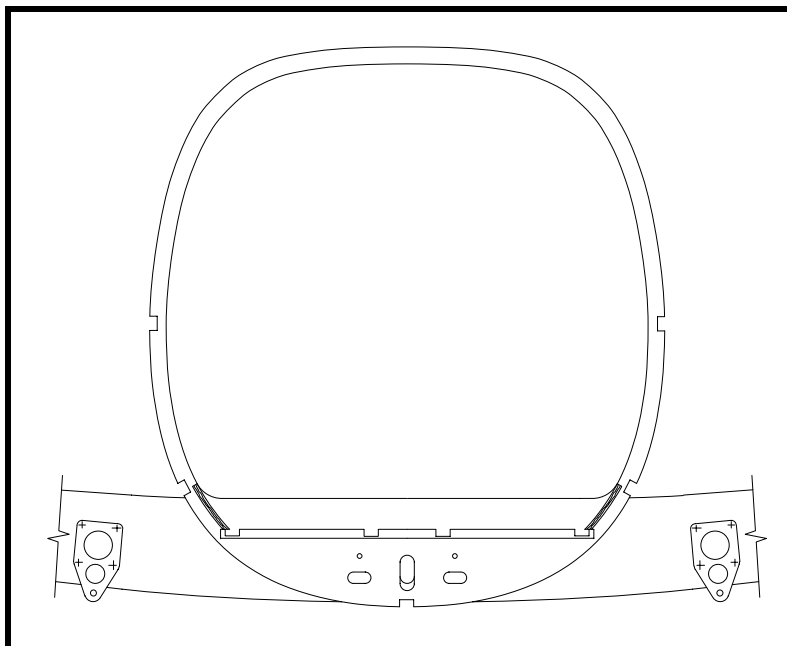

Figure 13
- ❑ Install the 20x20 spruce piece on the forward face of frame No. 4 as shown on Drawing No. 315. See Figure 13. This should be notched at four places for the 30x15 flooring
- ❑ Install the 10x10 spruce triangles for the inside side walls on the forward face of frame No. 4. See Figure 13. These are shown on Drawing No. 315. If you wish, these may be 10x10 rectangular spruce strips. A good view of these gluing strips is shown on Drawing No. 202.